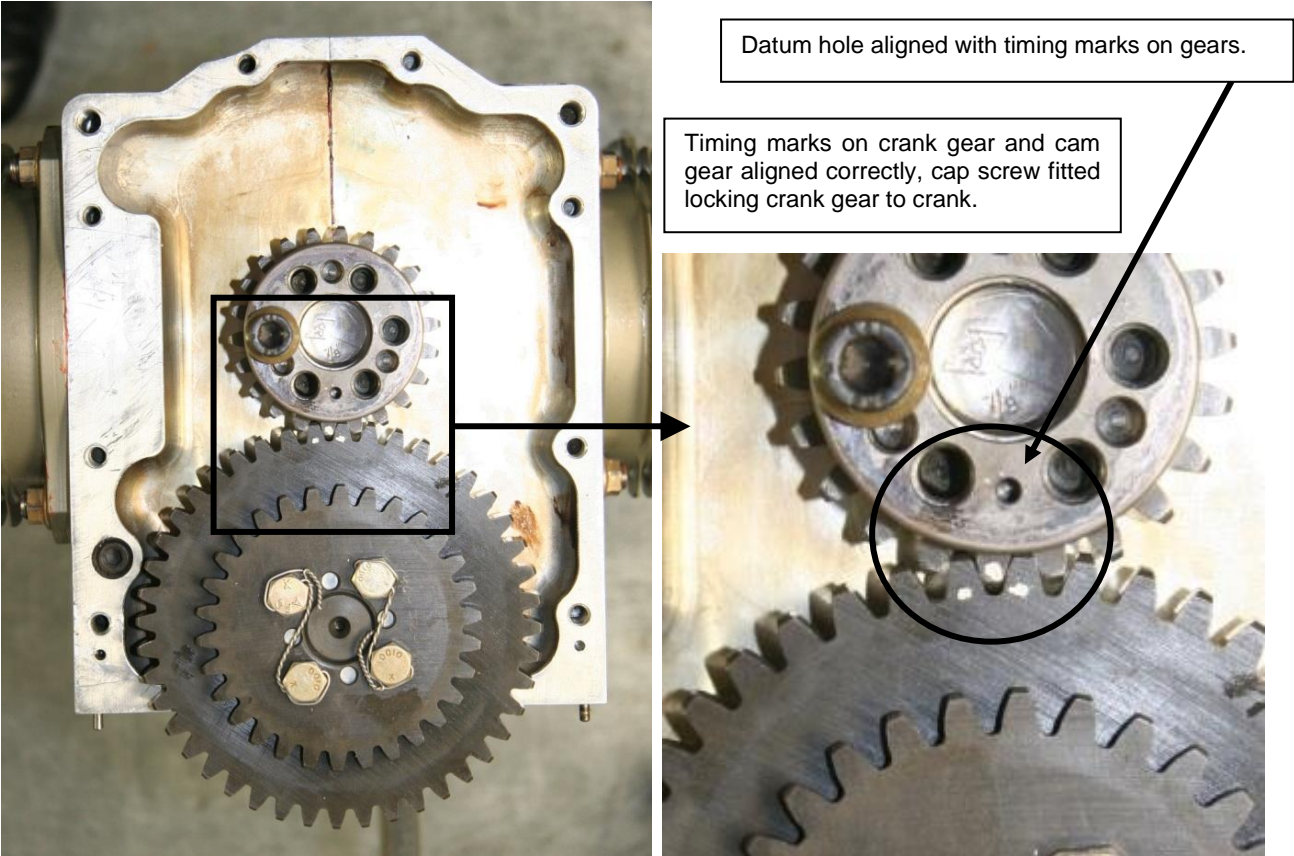

Figure 170 – Setting Cam Timing
The bead should be applied **22mm** down from the flywheel attachment face (see Figure 170).
- The camshaft drive gear can now be fitted to the end of the crank as shown in Figure 170 – so that the tooth on the crankshaft gear with the timing mark is between the two teeth of the cam gear with timing marks.
- Start with the engine positioned at TDC (i.e. piston #1 is fully extended out and the timing marks on the crank gear and camshaft timing gear are meshed as shown in Figure 170)